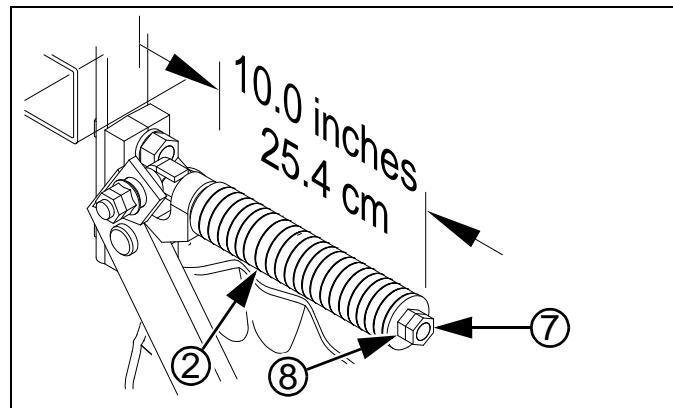

Figure 31
*Refer to Figure 31*
Refer to Figure 31 (which depicts an 06 Series row unit populated with most optional accessories)